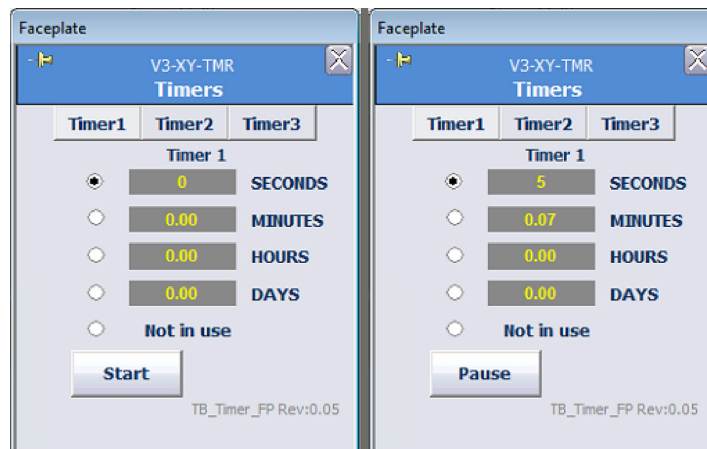

Figure 5.29. Start and Pause buttons on faceplate after setting into Cascade mode.
9. Open the **Pump** faceplate and set the pump into **Cascade** mode. The **Start** button appears on the **Timer** faceplate. After the dosing process begins, the **Start** button changes to **Pause** (Figure 5.29).